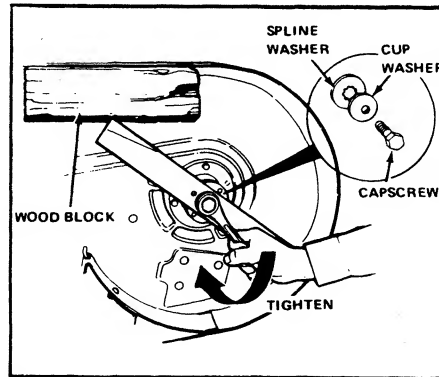

Figure 18. Installing Blade
7. Reinstall each blade with the tabs pointing up toward deck and secure with a capscREW, cup washer, and spline washer. Be sure the splines on the spline washer are aligned with the shaft and the washer is flush against blade. Be sure cup washer is installed concave side up. Use a wooden block to prevent blade rotation and torque capscREW to 50 ft. lbs. (68 N.m) (figure 18).